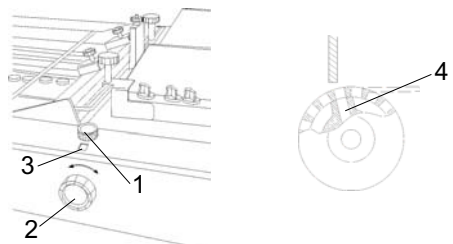

Fig. 4 Basic setting
1. Loosen the lock screw (Fig. 4/1).
2. Turn the knob (Fig. 4/2) until the figure "6" on a red background appears in the window (Fig. 4/3).
3. Tighten the lock screw (Fig. 4/1).
Now the suction segment is in its zero position (Fig. 4/4).